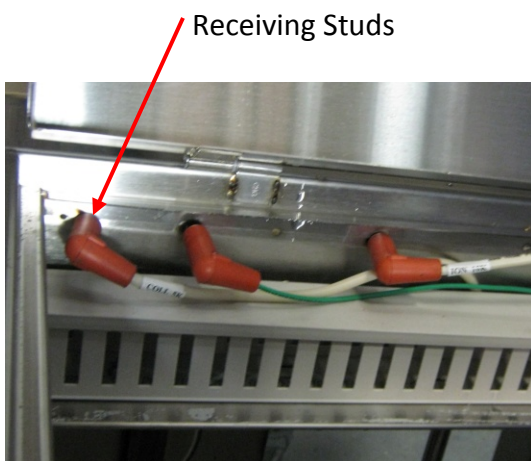

Figure 6-51-1
8. Once the Standard Safety Voltage Test has been conducted, slide off the 5 KV, 10 KV and the ground lead wires from all the Cells. **Important Note:** Allow the wires to hang in position. **Do not connect to wires to the Receiving Studs as a direct short will occur (Refer to Figure 6-51-1)**
8. Once the Standard Safety Voltage Test has been conducted, slide off the 5 KV, 10 KV and the ground lead wires from all the Cells except the first Cell to be tested. **Important Note: Allow the wires to hang in position. Do not connect to wires to the Receiving Studs as a direct short will occur (Refer to Figure 6-51-1).**
2. If there is no voltage from the Standard Safety Voltage Test pull off the lead wires from the Cell, and to keep the wires out of the way, slide them onto the Receiving Studs located above the Cell (Refer to Figure 6-51-1).